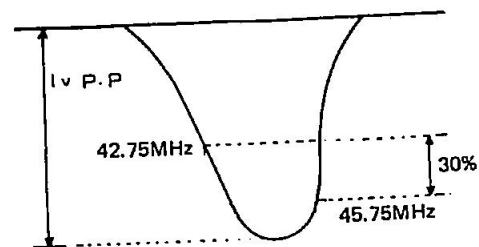

Figure 9. I-F OVERALL RESPONSE CURVE.
2. Adjust the core of tuner. (See Fig. 9)